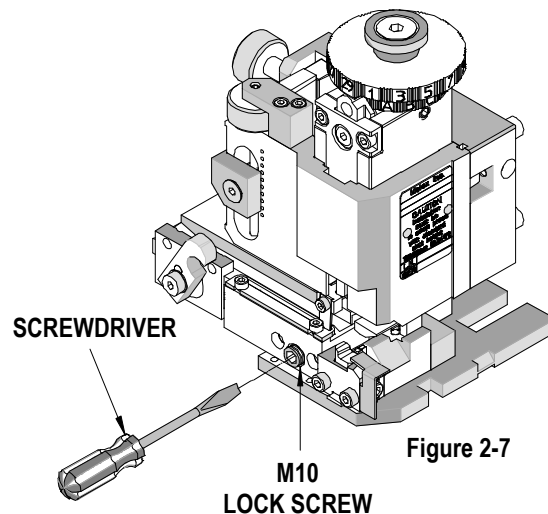

Figure 2-7
3. Put a regular screwdriver through the hole in the lock screw and turn the adjusting screw to position the terminal in the correct location. See Figure 2-7. Turning the screw clockwise will move the track towards the operator; to move the track towards the applicator turn the screw counterclockwise. Depending on the amount of movement, the feed finger mount may need to be loosened and readjusted. See Feed Finger adjustment.